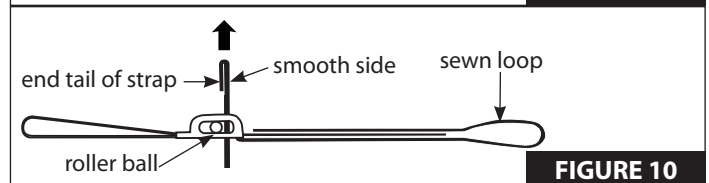

FIGURE 10
- Feed end tail of strap up through the bottom of the float buckle on the sewn loop side of the roller bar. **SEE FIGURE 10.**